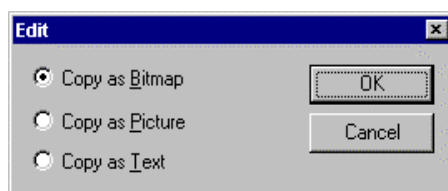

Fig. 2.67 [Edit] dialog box
*Note: If only one set of data is displayed in the view, the dialog box shown in Fig. 2.67 is displayed. Calculation can be performed between the data and a constant or constants.*